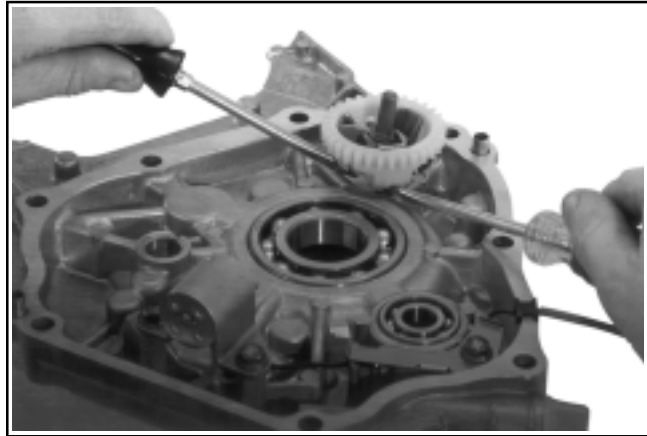

Figure 9-78. Removing Governor Gear.
5. Remove the governor gear/flyweight assembly by carefully applying upward pressure with two small screwdrivers between the gear and the closure plate bosses. This will unseat the retaining ring from the groove, allowing removal of the gear and mounting components by pulling upward. Do not pry against the gasket surface. Note the placement and order of all parts. See Figure 9-78.